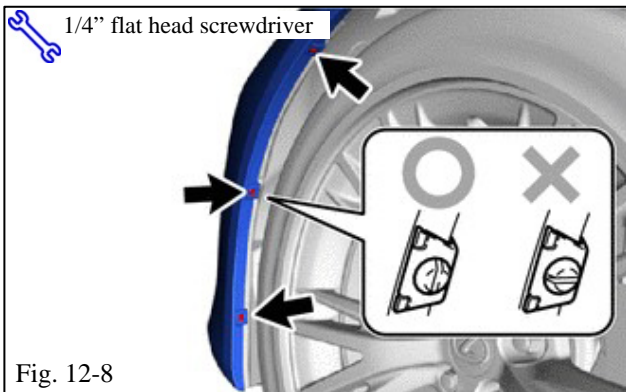

Fig. 12-8
- (k) Insert the 3 pin hold clips removed in Step 3(d) to secure the fender lining (Fig. 12-8).